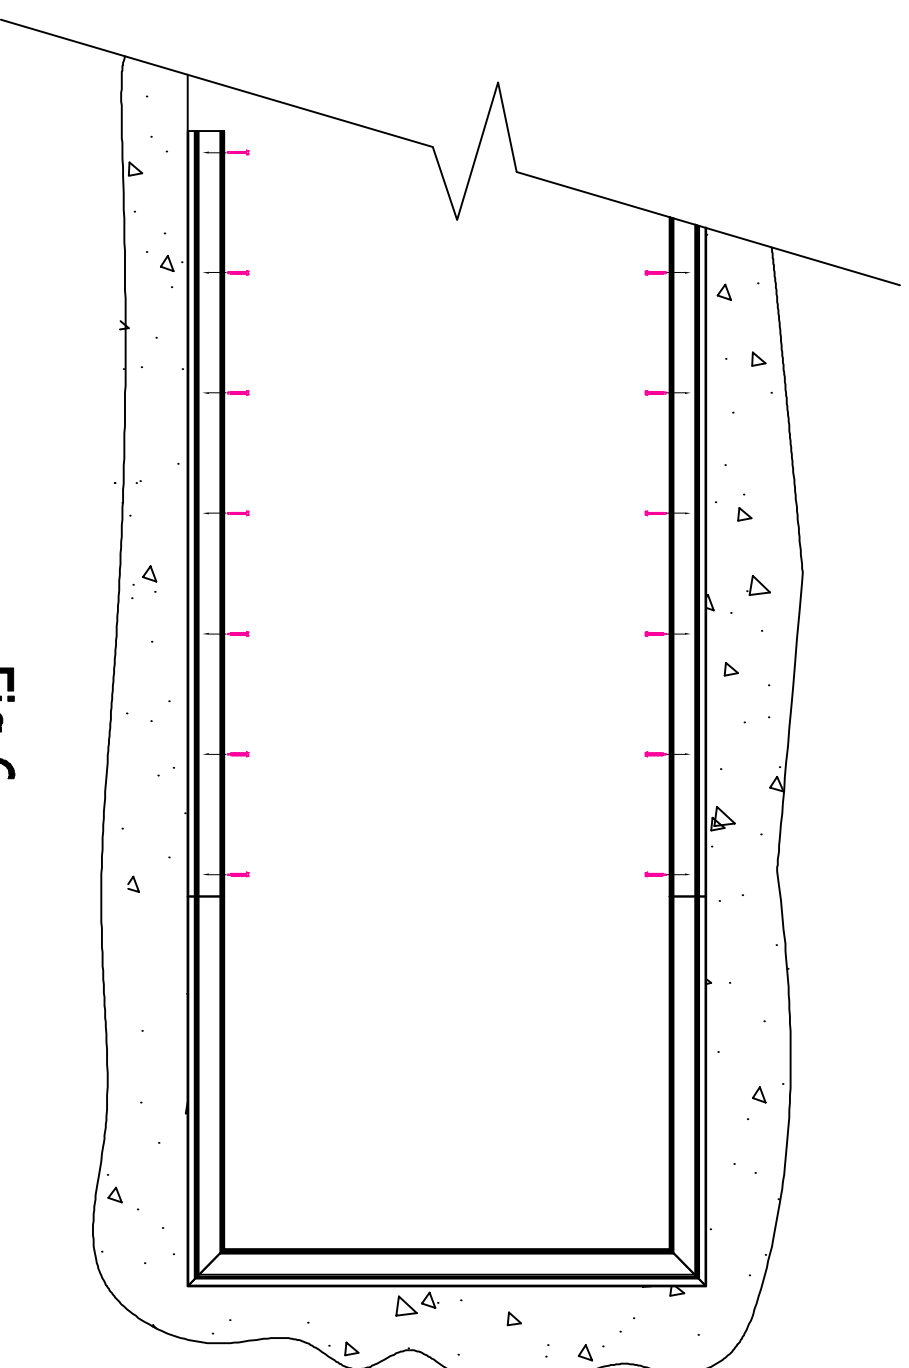

Fig 6
- 4.) Install the anchor screws (furnished by SIP) into ALL of the pre-drilled holes. See Fig 6.